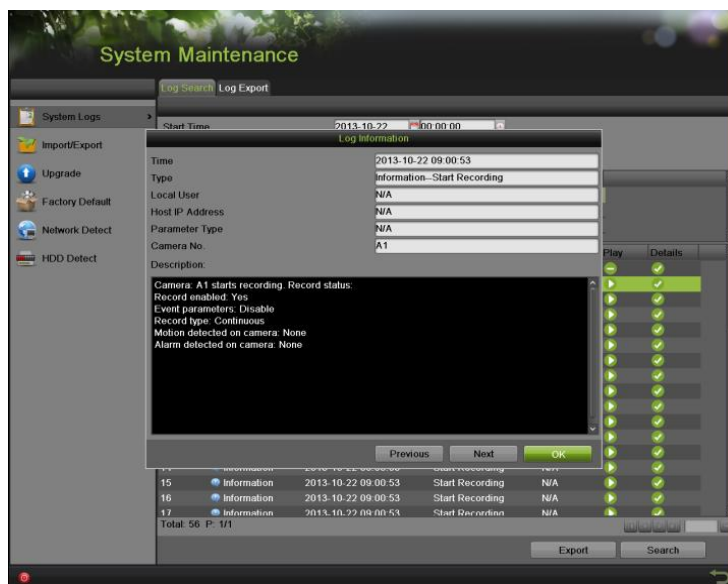

Figure 218 Log Information
6. Click  under the Detail item to view the detail information, as shown in **Figure 218**.